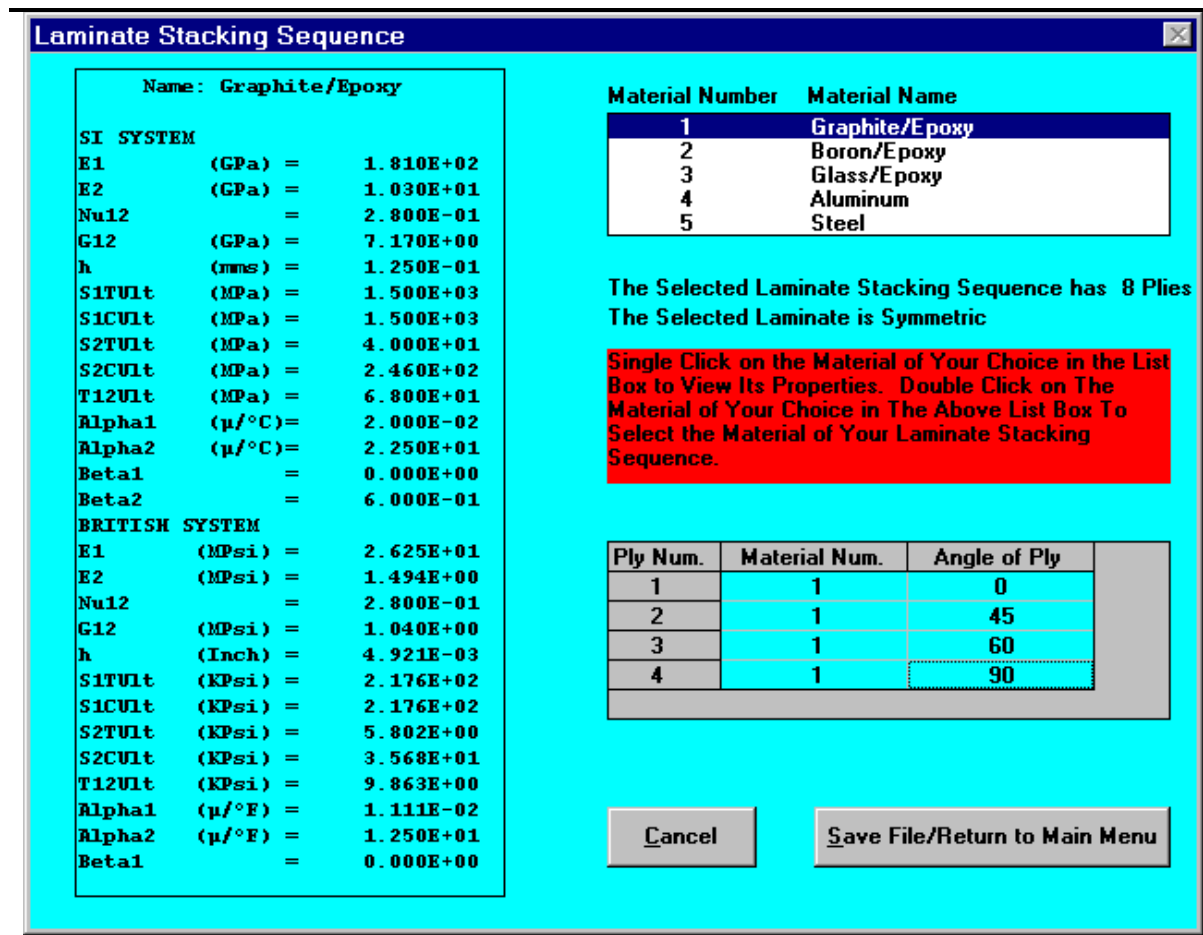

Figure 9. Menu for entering stacking sequence of a laminate for Task 6.5.
6. Click on Enter Laminate Stacking Sequence Button and you will see a screen as given in Figure 9.